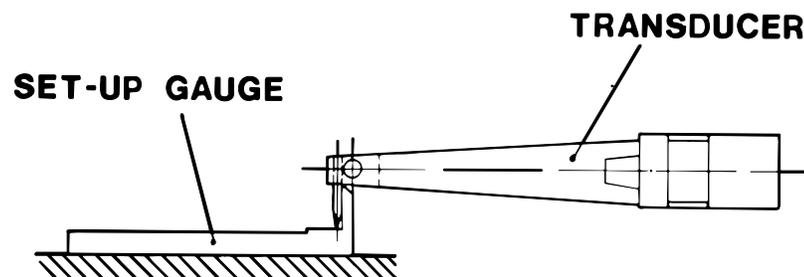

FIG. 6-3 CAPILLARY INSERTION ADJUSTMENT
Take the small plastic bag containing the capillary, Allen wrench and capillary insertion (setup) gauge out of the small parts box, clean and install capillary in transducer tip (Section 6.1.2, Fig 6-3).
- 6.1.2.2 Loosen the capillary set screw at the transducer tip and insert the capillary. Set the capillary insertion gauge of the Bonder on the workholder. Lower the bonding head until the capillary tip touches the gauge and the transducer rests on top of the gauge (Fig. 6-3). Tighten capillary set screw.